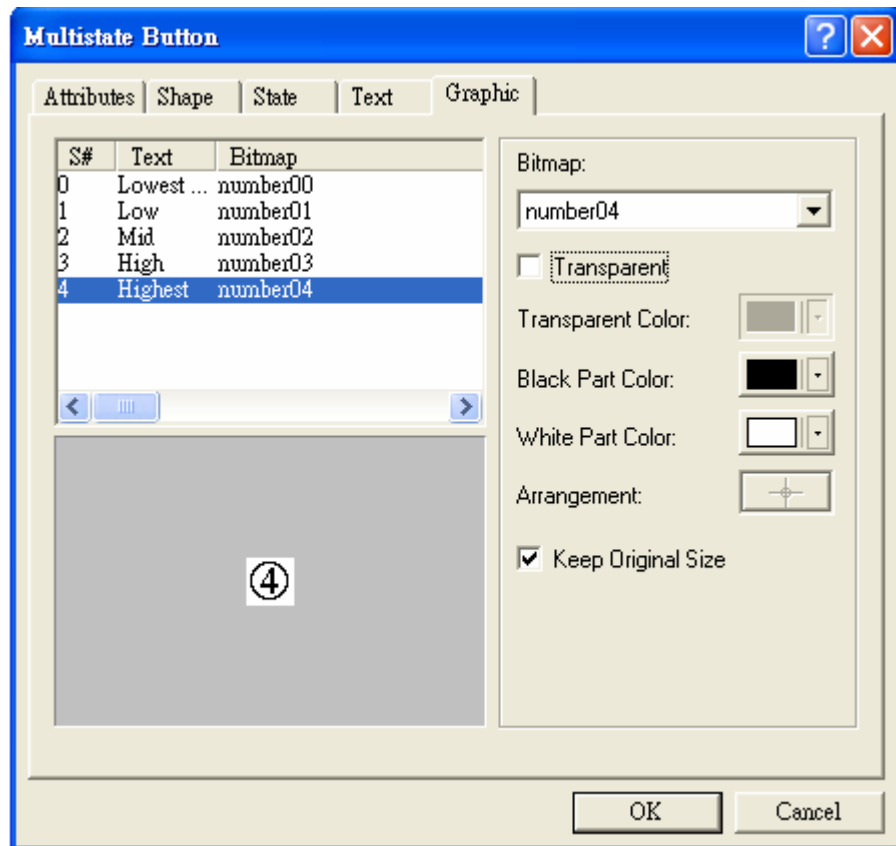

Figure 103. The [Graphic] Tab
5. [Graphic] Tab: Specify bitmap style, color...etc for each state as Figure 103.